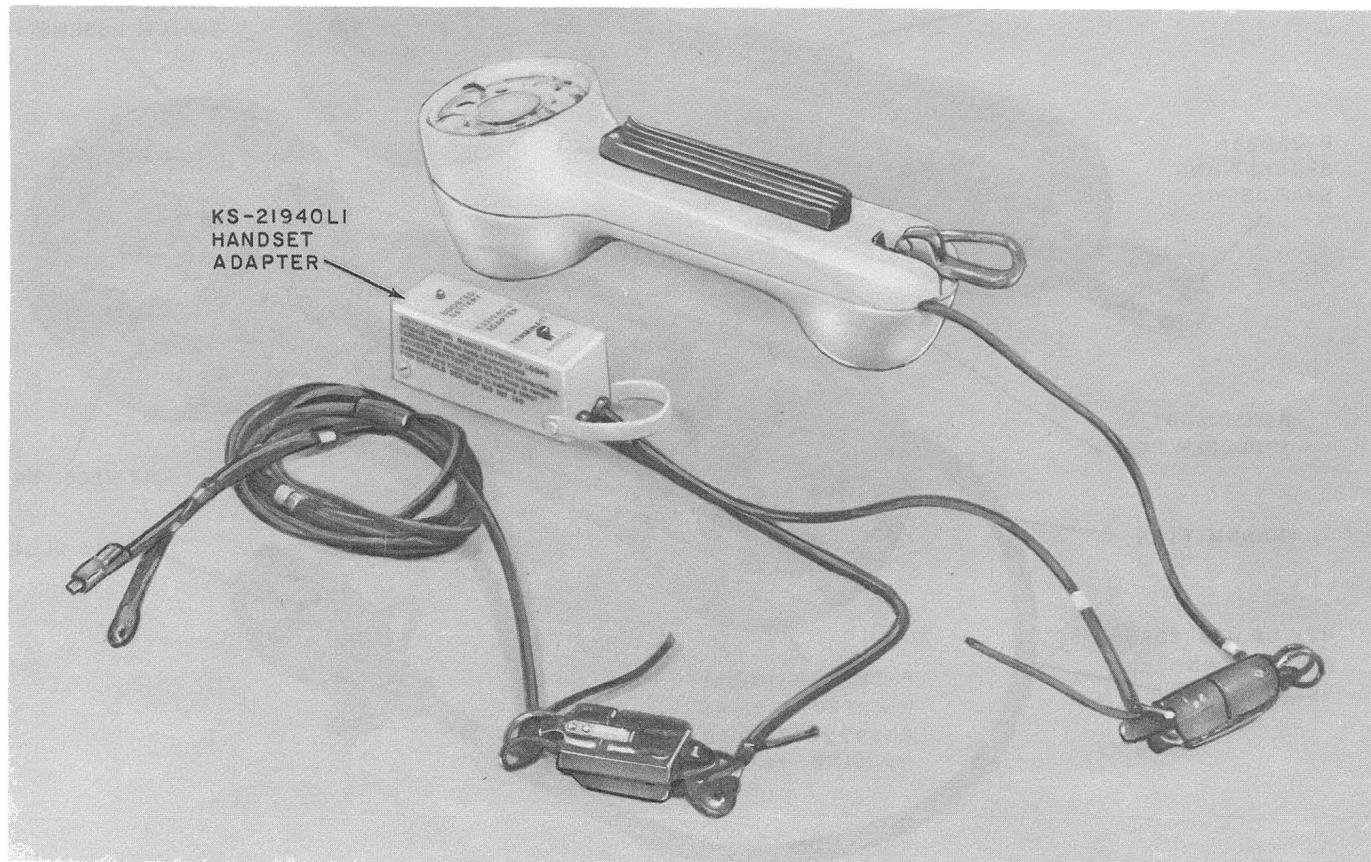

Fig. 4—KS-21940, L1 Handset Adapter and 1014A (Mfr Disc.) Handset
2.04 The KS-21940, L1, handset adapter, Fig. 4, assembly is contained in a small, lightweight plastic box. The adapter dimensions are 1.2 inches wide by 1.3 inches high by 3.25 inches long. A one-foot cord equipped with a 346A plug and a one-foot cord equipped with a 471A jack are attached